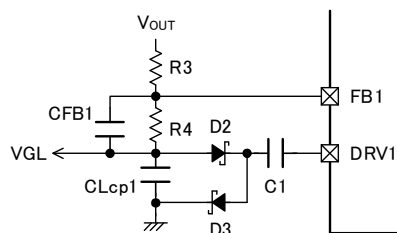

Figure 3.
- In case of V_{GL} voltage, V_{GH} voltage may overshoots or undershoots when power supply rise, please put speed-up capacitor (CFB1, CFB2) between FB1 pin and V_{GL} , FB2 pin and V_{GH} . (Please refer to figure 3 and 4.)